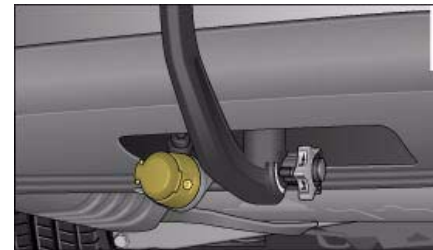

Fig. 213 Area below rear bumper: Electrical socket for trailer
- The cable of the towing bracket can be connected to the socket ⇒ *page 214*, fig. 213.